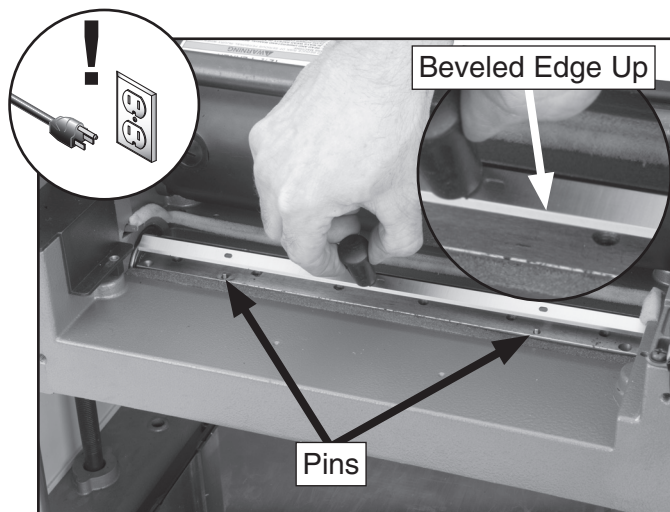

Figure 22. Knife installation.
2. Using the magnets, position the knife over the two pins on the cutterhead. Be sure the knife is oriented with the beveled edge up, as shown in **Figure 22**.